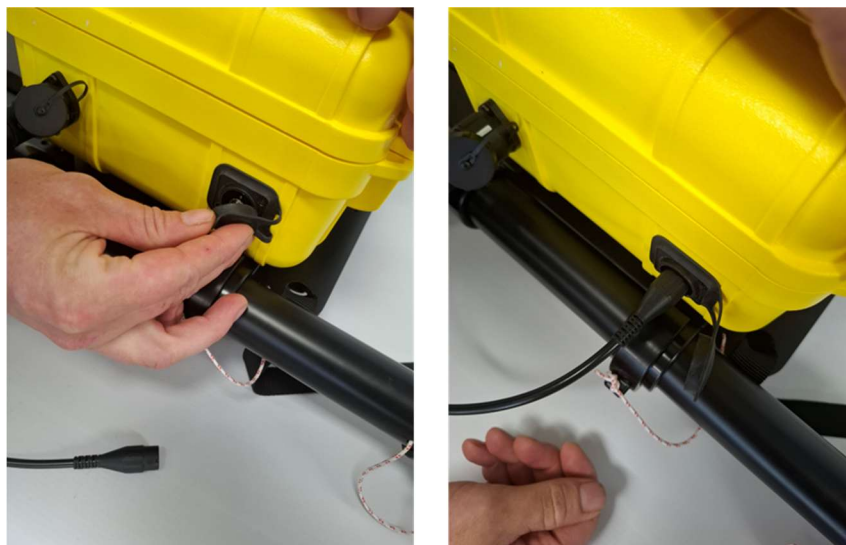

Figure 21: How to connect the Tx mast to the Tx unit
6. Connect the Tx mast cable to the connector on the upper left side of the unit (Figure 21):